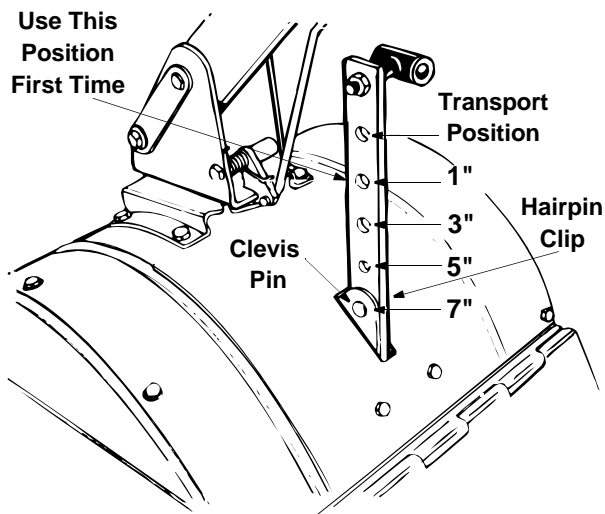
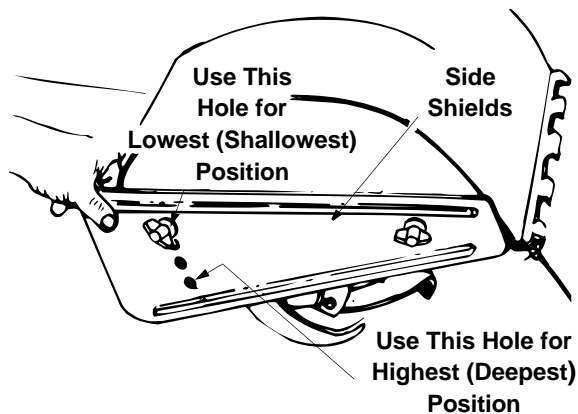

Figure 12
Figure 13
WARNING: When operating the tiller for the first time, use the depth stake setting that gives 1 inch of tilling depth (second hole from the top). Refer to Figure 12.
Tilling depth is controlled by the depth stake which can be adjusted to five different settings. See Figure 12. Adjust the side shields as shown in Figure 13, as you adjust the depth stake. Be certain spark plug wire is disconnected and grounded against the engine.
1. When using the tiller for the first time, use the second adjustment hole from the top (1" of tilling depth). See Figure 12.
To adjust the depth stake, remove the clevis pin and hairpin clip. See Figure 12. Move the depth stake to the desired setting. Secure with the clevis pin and hairpin clip.
To adjust the side shields, remove the wing nuts. See Figure 13. Move the side shield to the desired position. Replace the wing nuts. Tighten securely.